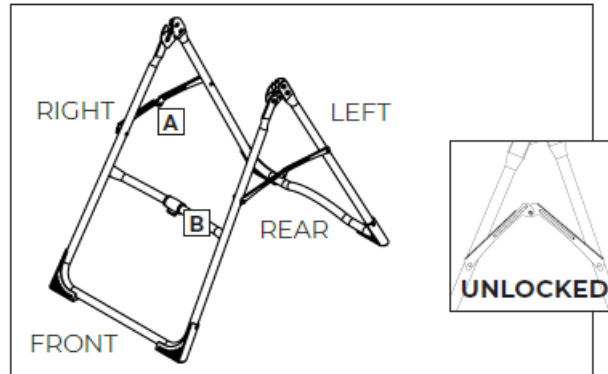

Figure 4
- Figure 4: On a level surface, position the A-Frame so that it is standing upright and the Stability Feet are on the ground.